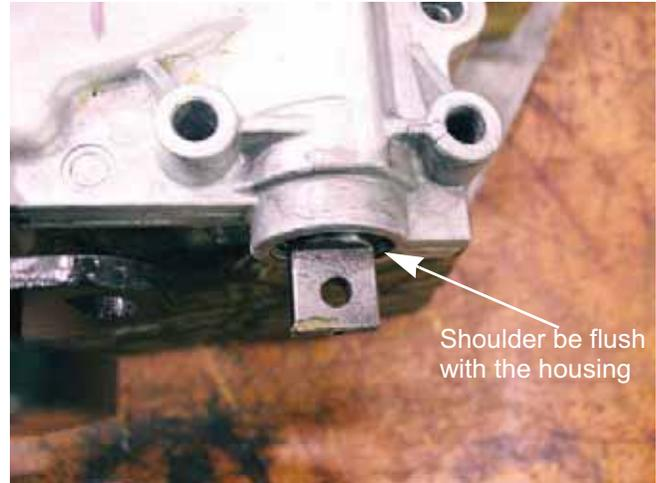

Figure 6A.74
- 22a. Turn the input shaft until the steering rack has moved all the way to the left. The right shoulder should be flush with the housing. See Figure 6A.74.